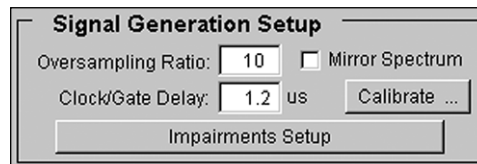

Figure 36. Signal generation setup menu with clock/gate delay setting returned from the calibration utility.
8. Place the marker at the desired clock/gate delay setting using the arrow buttons and select the set delay button. Then select the OK button. The clock/gate delay setting associated with the current marker location is returned to the clock/gate delay field (Figure 36) in the signal generation setup menu and the calibration utility is closed.